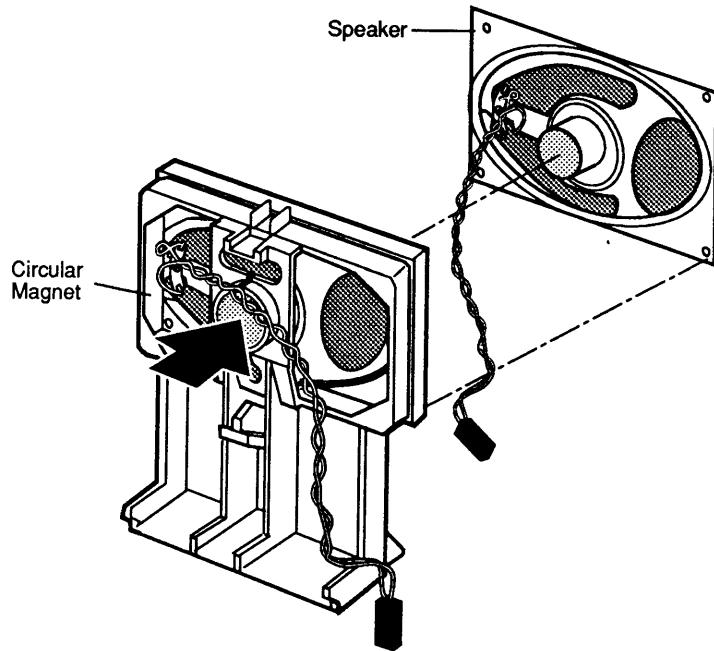

Figure 2-3 Speaker
4. Gently push the speaker away from the bracket by applying force to the back of the circular magnet at the rear of the speaker (see **Figure 2-3**).